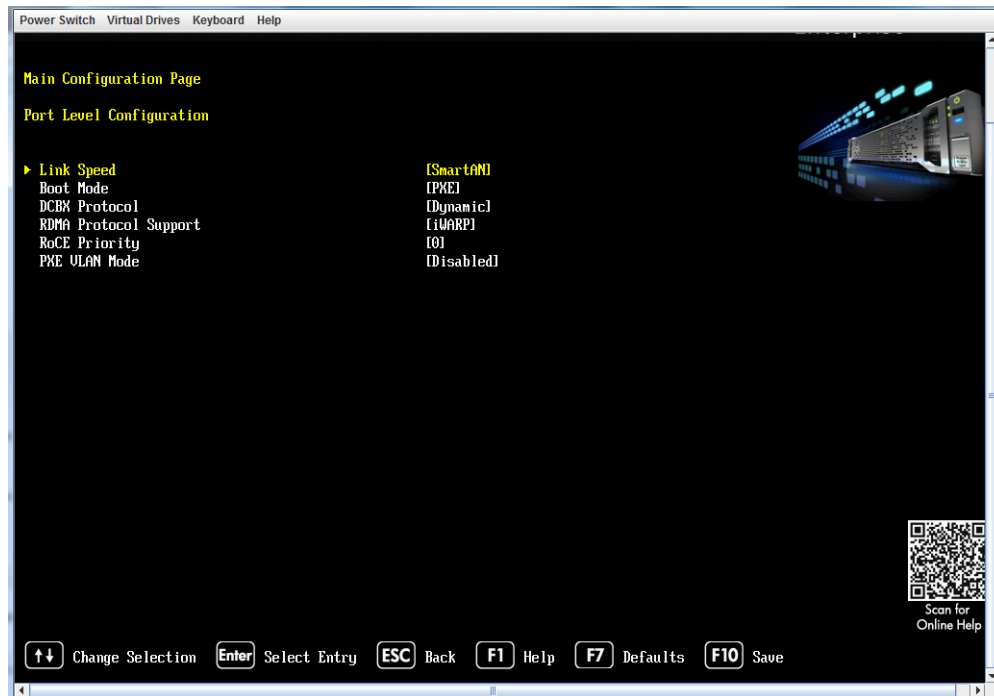

Figure 4-5. SmartAN Link Speed Verification
7. Verify that the Link Speed is **SmartAN** (Figure 4-5).